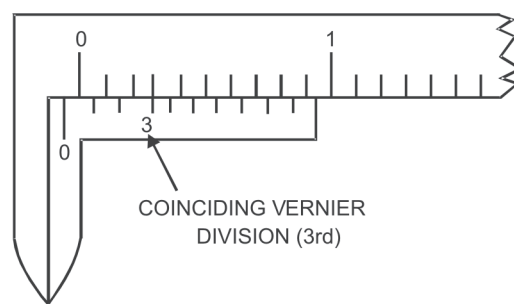

Fig. 8. Negative zero error
2. Negative zero error. If the zero mark of the vernier scale is slightly on the left of the zero mark on the main scale when two jaws AB and CD are made to touch with each other, the zero error is negative. It is shown in Fig. 8.
In case of negative zero error, the number of vernier scale division (n) coinciding with the main scale division is subtracted from total number of divisions on the vernier scale and then this difference is multiplied by the Vernier constant (V.C.). In Fig. 8 we have: